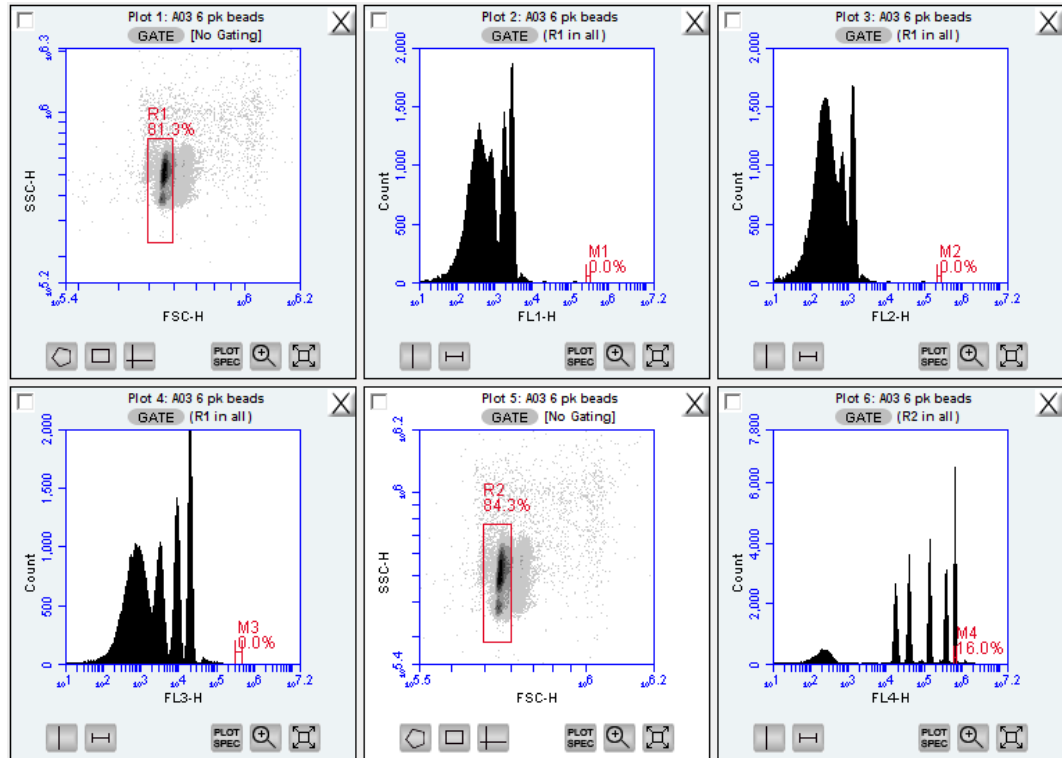

Figure 2-14. 6-Peak Validation Bead Data
Adjust the pre-drawn region R2 in the 6-peak scatter plot FSC-H vs. SSC-H (plot 5) to encompass the main population (similar to the procedure for the 8-peak beads). This population should look like an exclamation point. The R2 region should encompass the entire exclamation point (Figure 2-14).
- Measure the CV of the top (brightest, far right) peak by adjusting the marker in the FL4-H plot so that it is placed tightly around the peak. See the plots in Figure 2-14 for an example of acceptable 6-peak bead data. Look for the following: